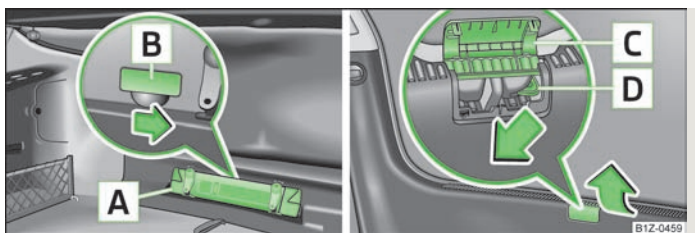

Fig. 17 Emergency unlocking of the boot lid
- Remove the warning triangle  » Fig. 17.
- Press on the level in the direction of arrow » Fig. 17, the boot lid is unlocked.
- Pull up the panel  » Fig. 17.